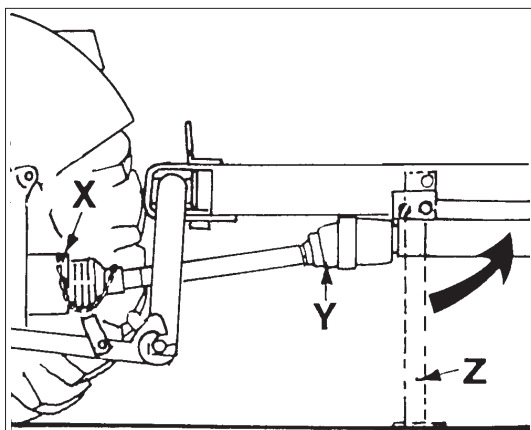

Fig. 3-2
- Couple the Helipede Rotary Windrower onto the tractor lower links (fig. 3-2).